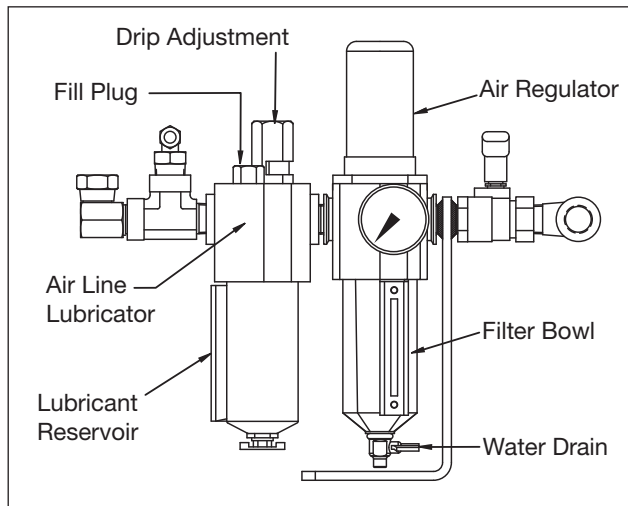

Figure 7, Air Line Lubricator and Filter/Regulator
6.4.1 Air Line Filter/Regulator (See Figure 7)
6.4.2 Air Line Lubricator (See Figure 7)